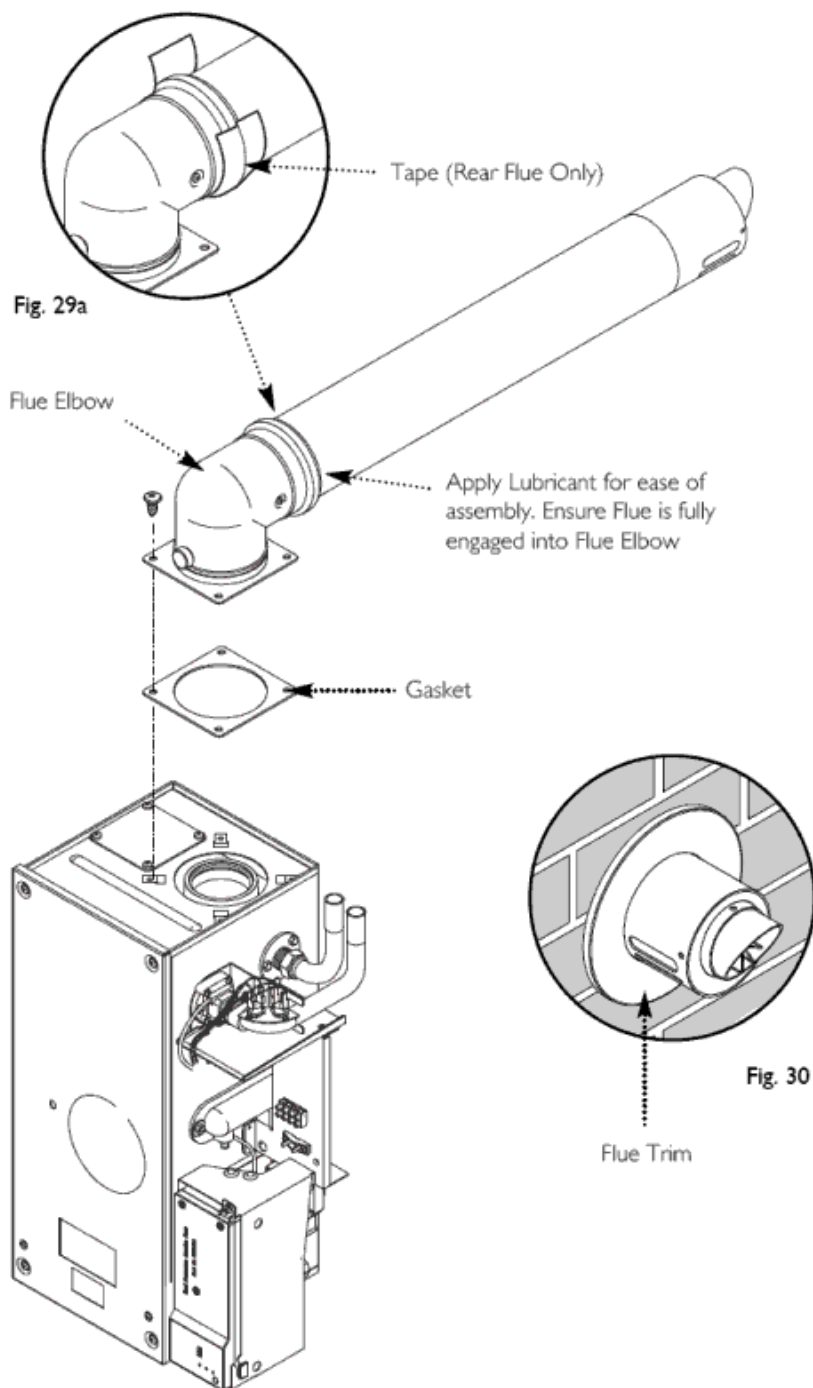

Fig. 29
7. Engage the flue into the flue elbow using soap solution to ease the engagement ensuring the flue is assembled as shown (Fig. 29). **Rear flue only:- Take the tape supplied in the kit and wrap around the joint between the flue and the elbow** (Fig. 29a).